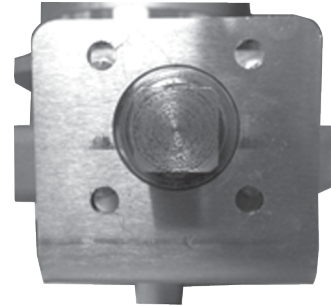

Figure 8. Coupler Installation for Size 4-inch NPT Single Flange Rotary Actuator
5. With the coupler and stub pinned together and the valve cam touching the valve stem turn the coupling counter clockwise 1/8 of a turn, or until the flat of the coupling is square with the valve (see Figure 8).